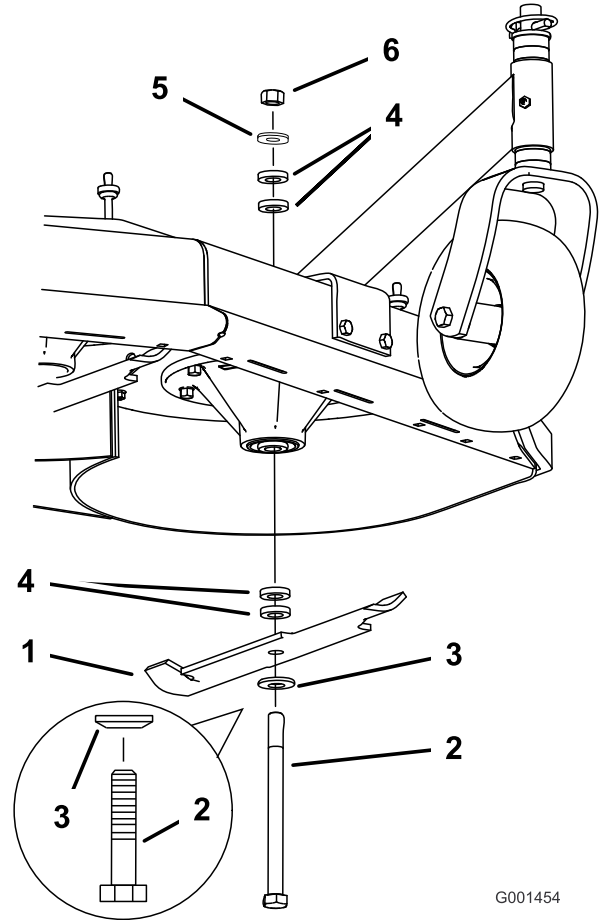

Figure 55
2. Remove the nut, blade bolt, curved washer, blade, spacers, and thin washer from the spindle (Figure 55).
1. Install the bolt, curved washer, and blade. Select the proper number of spacer(s) for the height-of-cut, and slide the bolt into the spindle (Figure 55).
2. Install the remaining spacer(s) and secure them with a thin washer and a nut (Figure 55).